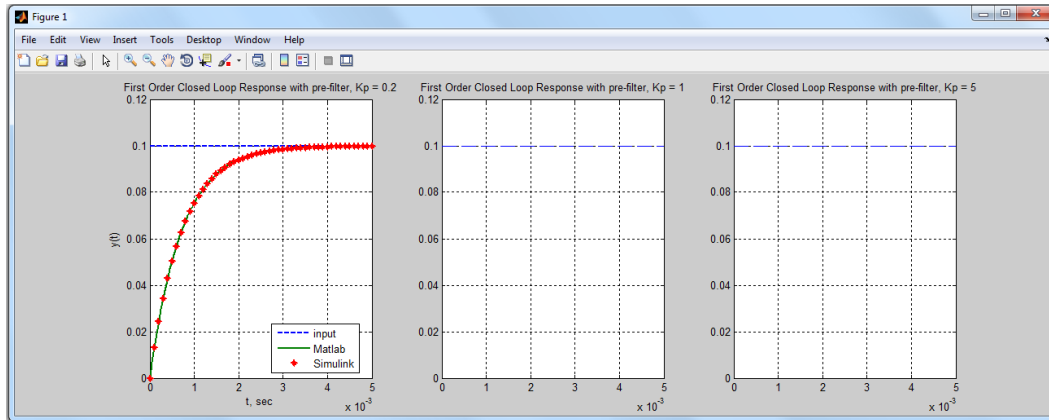

Figure 11: Closed loop control of a first order system using a prefilter
4. Rerun **Parts I and II**, for the first order system with  $Kp = 0.2, 1,$  and  $5$  with a final time of  $0.005$  s. Put all three of the plots on a  $1 \times 3$  grid by using a `subplot` command. Figure 11 shows the beginning of the plots.